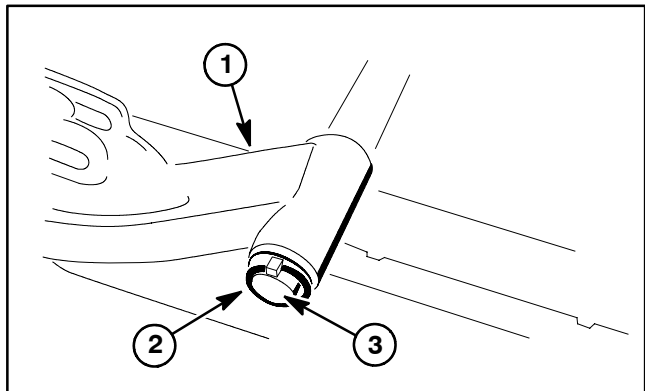

Figure 5
A. Remove the lynch pin and washer securing the lift arm pivot yoke shaft to the rear lift arm (Fig. 5).
B. Make sure that thrust washer is positioned on the pivot yoke shaft. Insert the yoke arm shaft into the lift arm and secure it with the washer and lynch pin (Fig. 5).